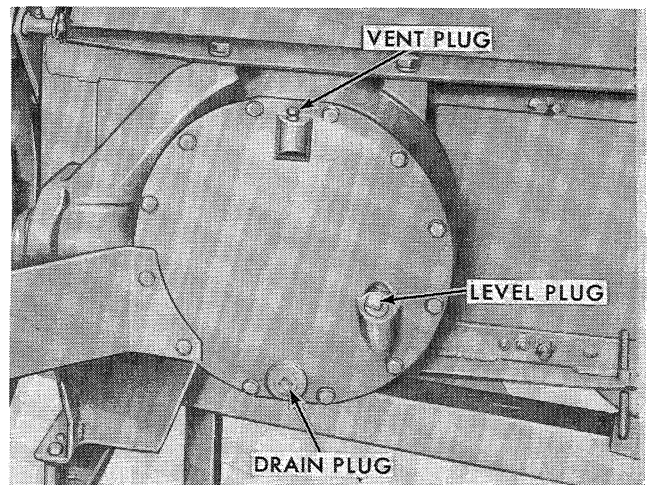

Figure 92
2. Keep the main gear box, Figure 92, filled to the
Keep the gear box filled to the level plug with SAE 140 E.P. oil (Hypoid Lube). Change the oil and clean the drain plug and vent plug seasonally. See Figure 92.